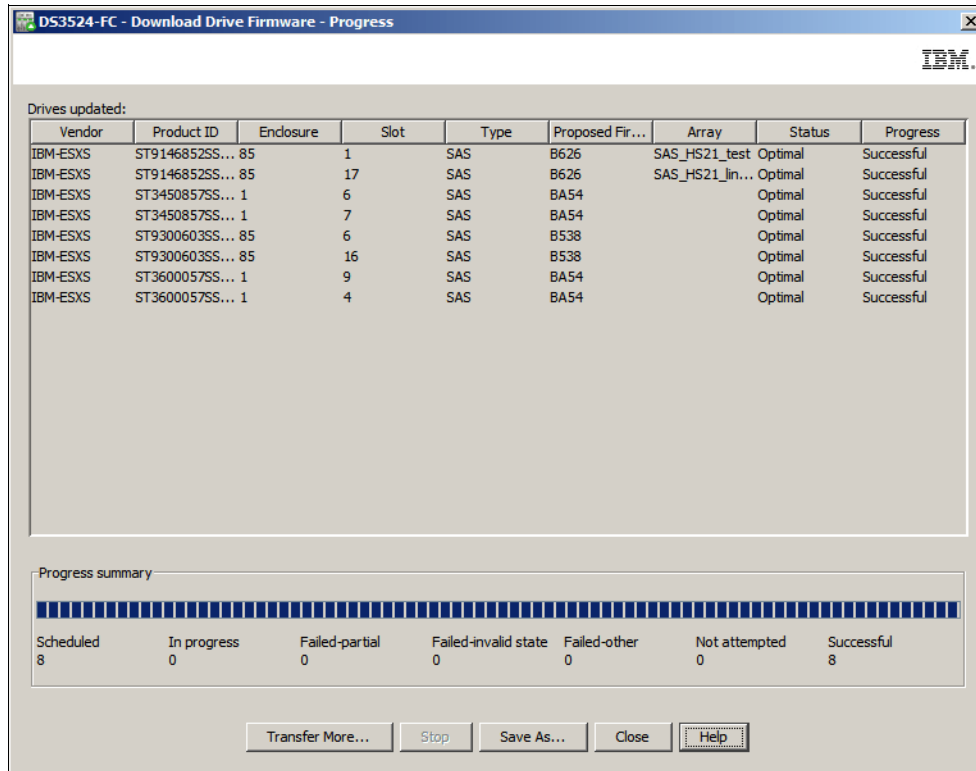

Figure 14-89 Drive update complete
8. After the update completes, a summary is displayed (Figure 14-89). If you want to update more drives, click **Transfer More** to select the compatible packages. Otherwise, click **Close** to exit the drive update window.